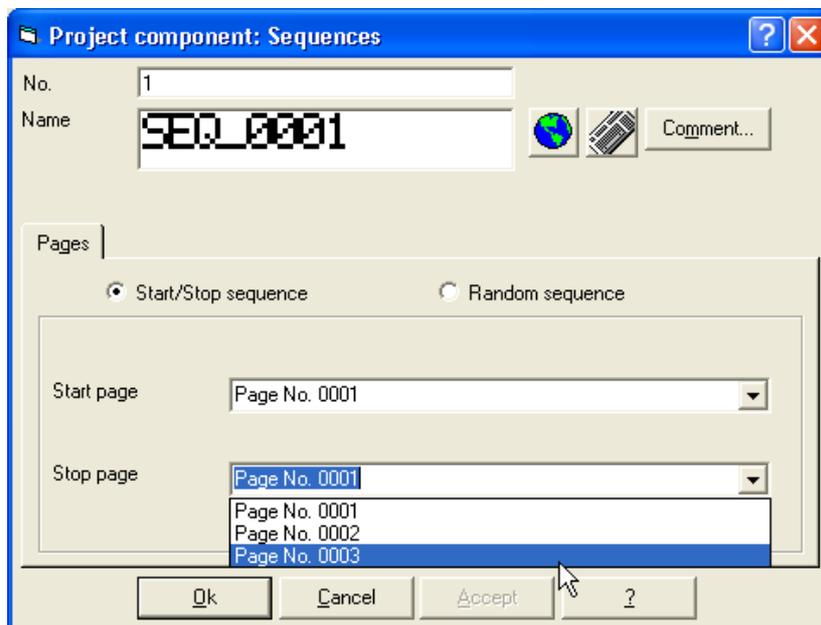

Fig. 32.
3.28 When the *Project component: Sequences* window comes up, choose Page No. 0003 as a *Stop Page* as shown in Fig.32. Then click *OK*.